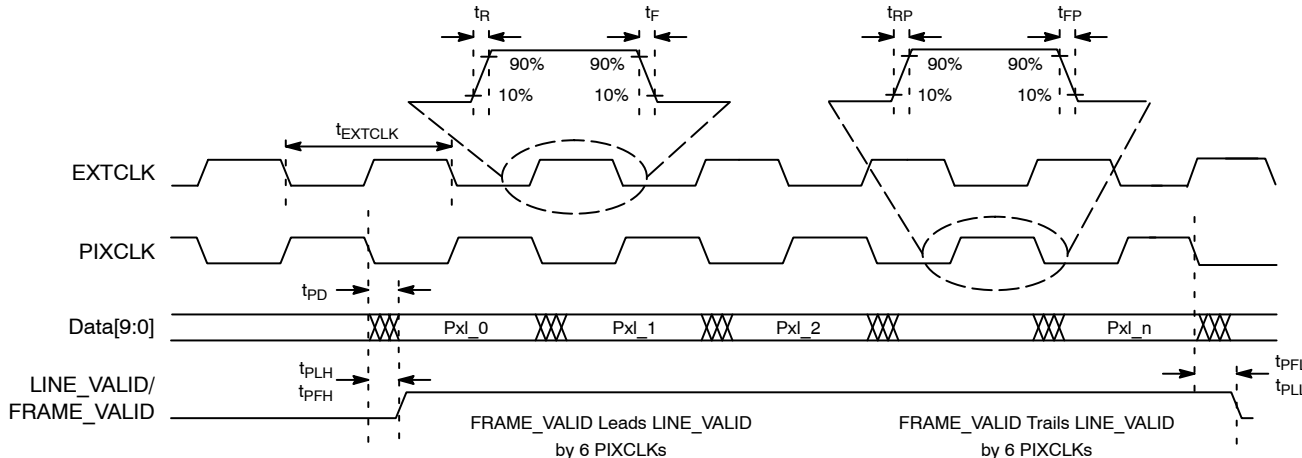

Figure 14. I/O Timing Diagram
edge of PIXCLK. The launch edge of PIXCLK can be configured in register R0x3028. See Figure 14 and Table 5 for I/O timing (AC) characteristics.